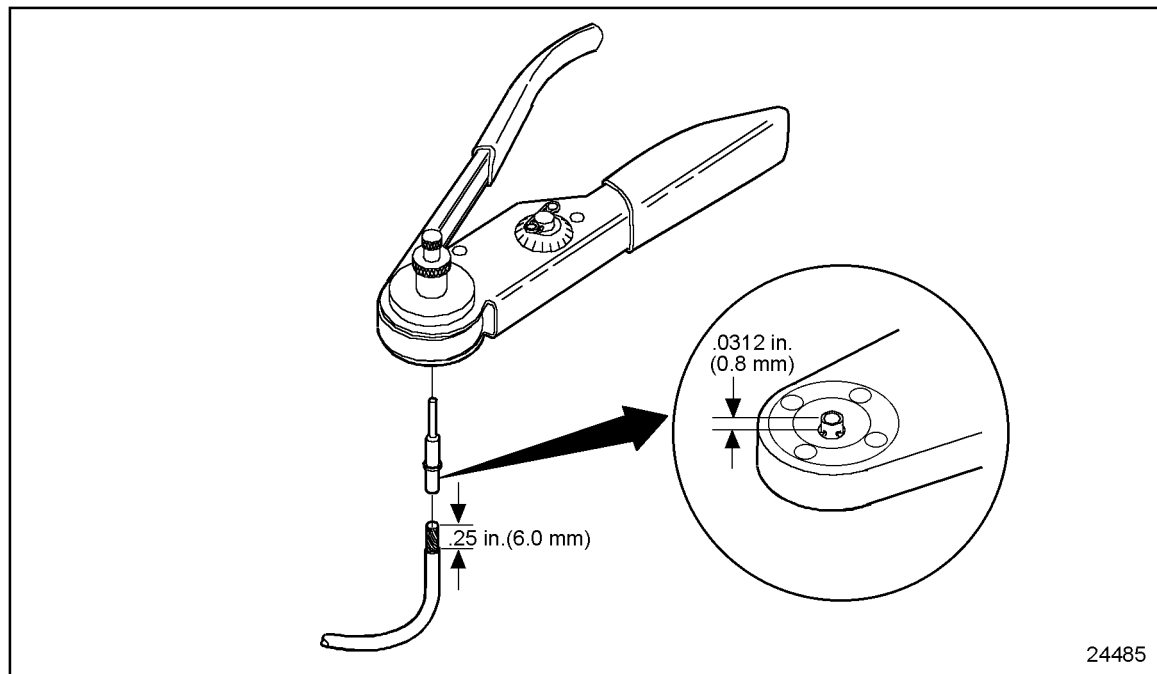

Figure 3-47 **Setting Wire Gage Selector and Positioning the Contact**
4. Position the contact so that the crimp barrel is 1/32 of an inch above the four indenters. See Figure 3-47. Crimp the cable.